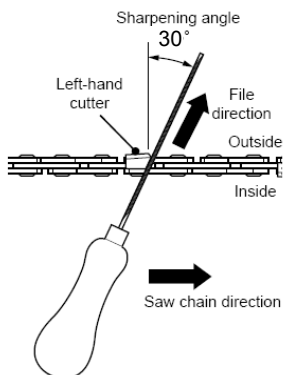

Fig. 48
- File at an angle perpendicular to the bar, and at an angle of 30° to the direction of travel (Fig. 48).